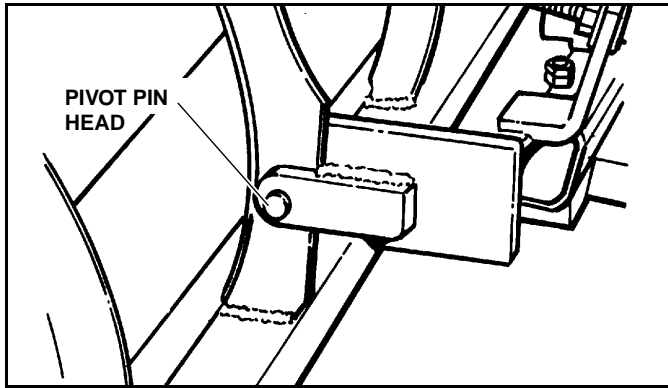

Figure 2-1
3. Align inside snow plow blade ribs with power pack swing frame end lugs. Align holes in both blade rib and end lug and insert pivot pins. (See Figure 2-1)